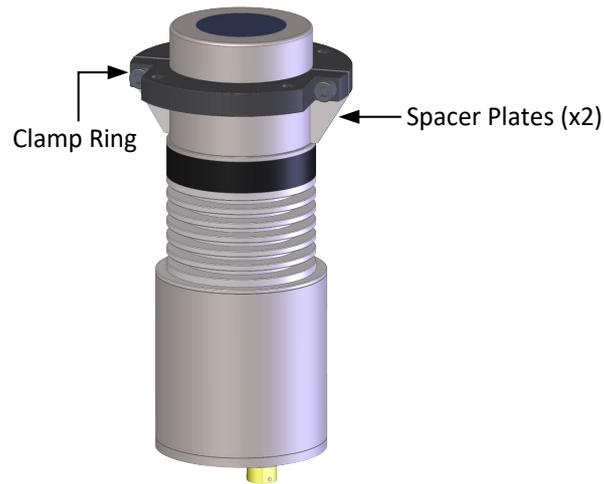

Figure 23: Clamp Ring (Flush Mount)
2. Attach the Clamp Ring with the Spacer Plates installed to the Hydro-Mix HT (Figure 23). Tighten the Clamp Ring Screws to lock the Clamp Ring into place